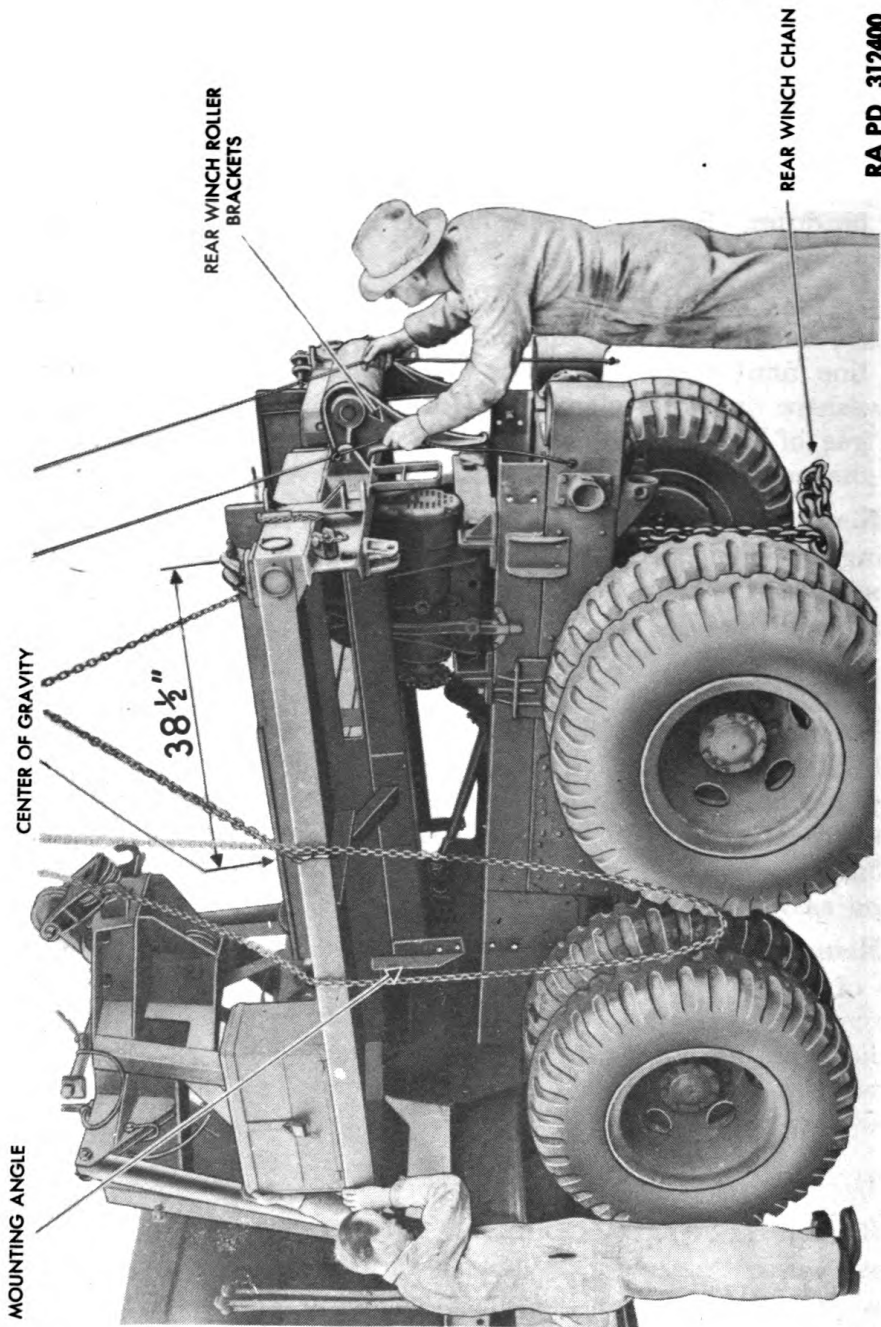

Figure 5 — Removing Body
a. Disconnect Rear Winch Roller Brackets. Remove sideboards and rear winch roller bracket bolts. Lift four side boards free of sockets. Remove four $\frac{5}{8}$ -inch bolts, nuts, and lock washers from each side of body mounting angles. Remove crane load indicator plate (M, fig. 31). Disconnect swinger cut-out valve air line clamp at body side board. Remove four $\frac{1}{2}$ -inch bolts, nuts, and lock washers retaining rear winch rope roller brackets to vehicle frame (fig. 5).
b. **Remove Body** (fig. 5). The center of gravity of the body with the tool equipment in the body tool boxes is 38½ inches ahead of the rear face of the body platform. A single bridal chain hooked under the platform angles connected to a chain hoist can be used for lifting. The body can then be raised and tilted front end down in order to clear the rear winch. Continue raising until it is clear of the vehicle and remove.